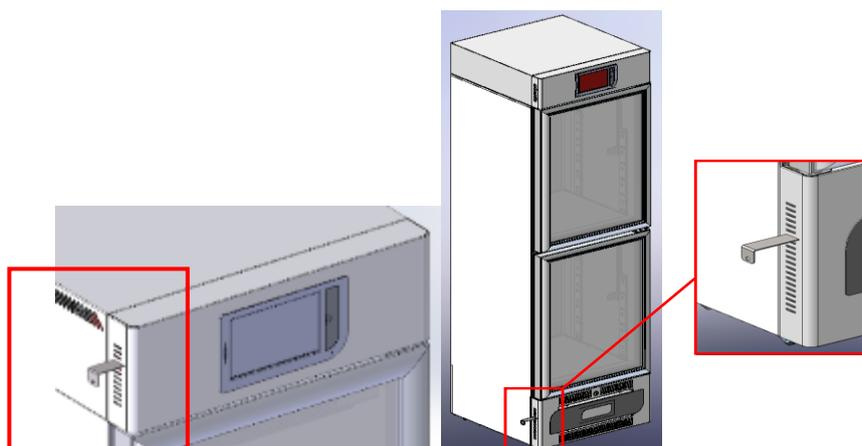

Figure 28 – key position to open the door manually in double temperature equipment
- **Double temperature equipment:** you should follow the same above manual unlocking instructions. In Figure 28, indications to find the slot for unlocking, in accordance with the handlong position.